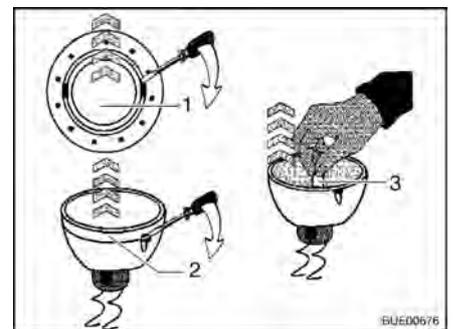

Fig. 203 Changing the halogen bulb
- Use a screwdriver to remove the inner cover ring (Fig. 203,1) from the housing.
- Use a screwdriver to remove the cover ring with the glass (Fig. 203,2) from the lower section of the recessed halogen light.
- Remove halogen bulb (Fig. 203,3).